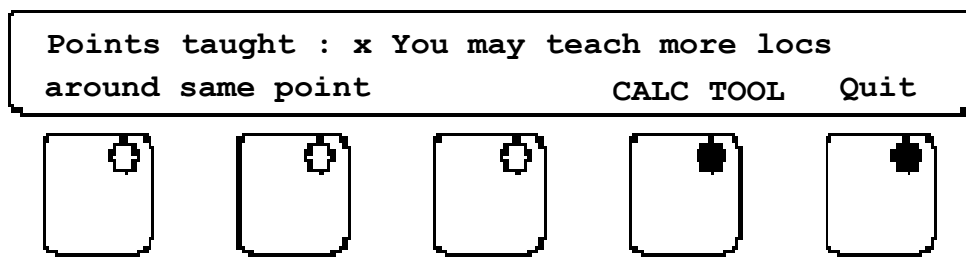

Figure 4-25. Calculating XYZ Offsets
- Once the locations are taught, press the "CALC TOOL" soft key (Figure 4-25). The locations are "averaged" and are used to define the tool offset. The routine will give you the option of not using the location farthest away from the calculated center in the tool transformation calculation. Press "QUIT" to return to the previous menu.